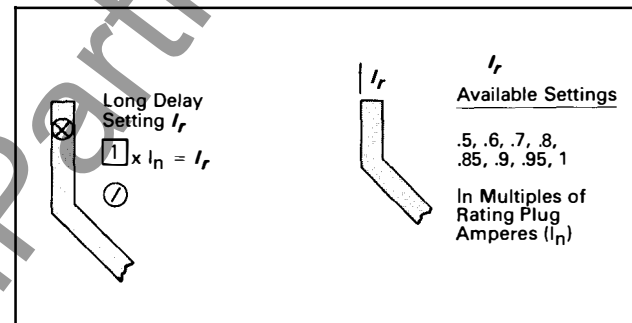

Fig. 4.1 Long Delay Current Settings
The available settings, along with the illustrated effect of changing the settings, are given in Figs. 4.1 through 4.7.
There are eight (8) available Long Delay Settings, as illustrated in Fig. 4.1. Each setting, called " I_r ", is expressed as a multiple (ranging from .5 to 1) of the rating plug current (I_N).